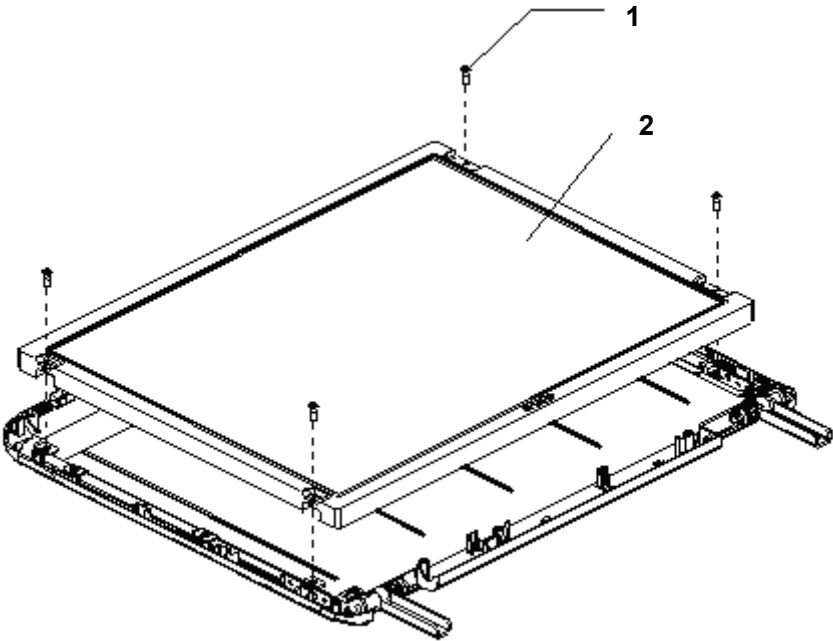

Figure 4-8 Remove LCD Display
- 8) As shown in Figure 4-8, remove four screws, and take out the LCD.